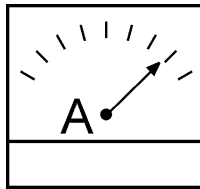

Figure 49. Ammeter (Load)
11. Observe the generator's ammeter (Figure 49) and verify it reads the anticipated amount of current with respect to the load. The ammeter will only display a current reading if a load is in use.